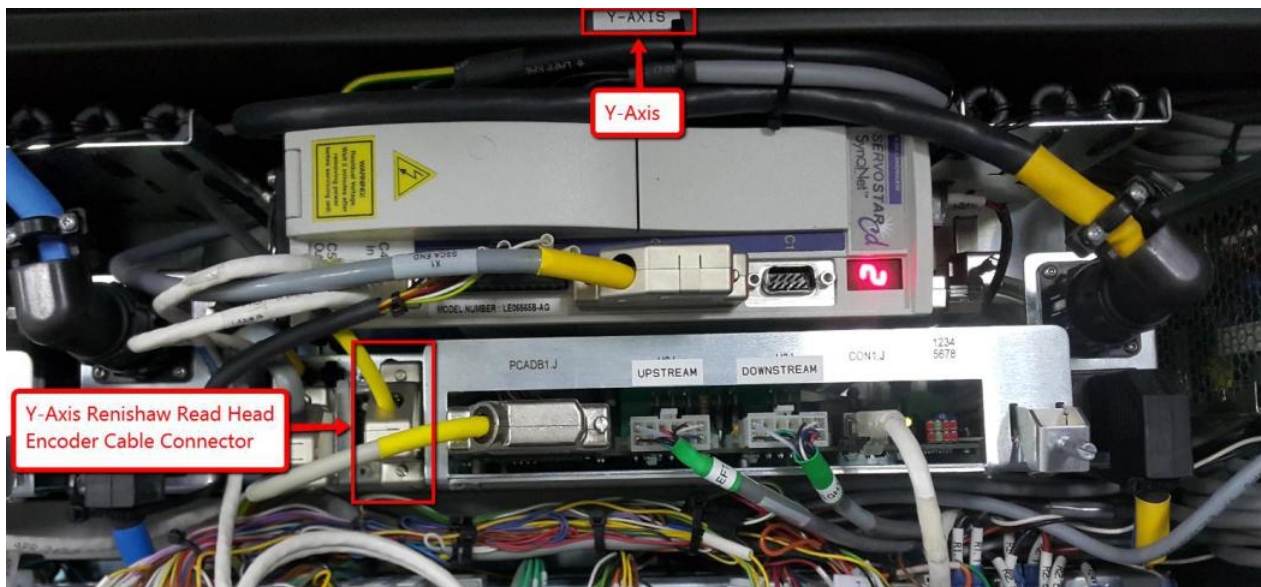

Figure 21 Read Head Encoder Connector
15. Plug in the Y-Axis Read Head Encoder connector from the Y-Axis Kollmorgen as shown in the Figure 21